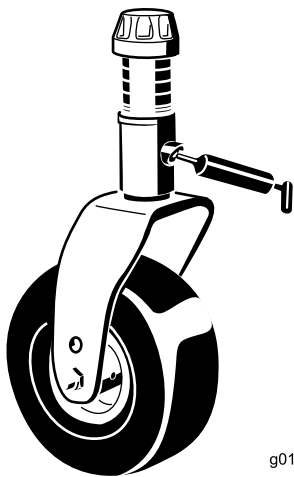

Figure 72
- 1 caster-fork-shaft bushing (Figure 72)